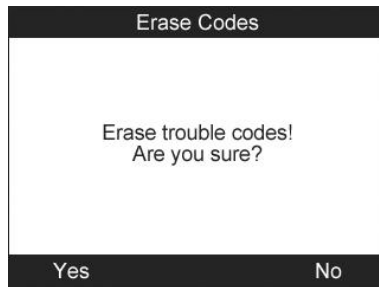

Figure 5.6
- 2) A warning message comes up asking for your confirmation (*Figure 5.6*).